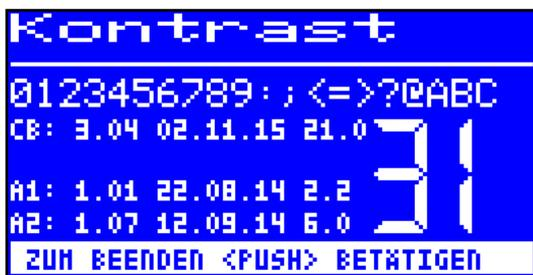

Figure 2. Firmware versions in the Kontrast (Contrast) menu
- Press and hold down the i-OP until the display changes. The display should now be similar to that shown in figure 2.